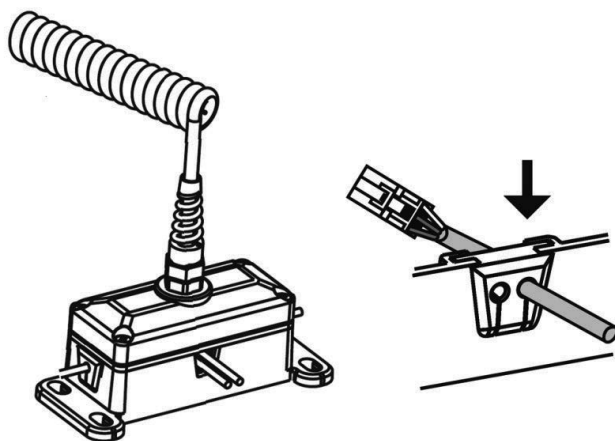

Figure 2 – Cable entry in the terminal block
- Insert the cables from protective sensors to the terminal block (Figure 2), through sealing inserts. Prior to this operation, choose sealing inserts from the set (for $\varnothing 3.4$ mm cable – 3 pcs.; for $\varnothing 4.4$ mm cable – 1 pc.).